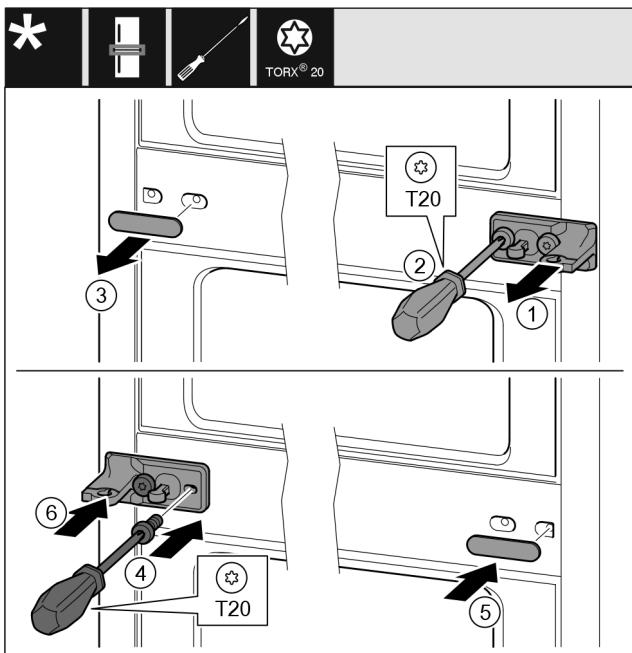

Fig. 31
- Remove the washer. *Fig. 31 (1)*
- Remove the screws with the T20 screwdriver. *Fig. 31 (2)*
- Remove the cover carefully. *Fig. 31 (3)*
- Screw the bearing bracket and the film rotated 180° firmly onto the other side. *Fig. 31 (4)*
- Attach the cover rotated 180° onto the other side. *Fig. 31 (5)*
- Push the washer in from the front. *Fig. 31 (6)*